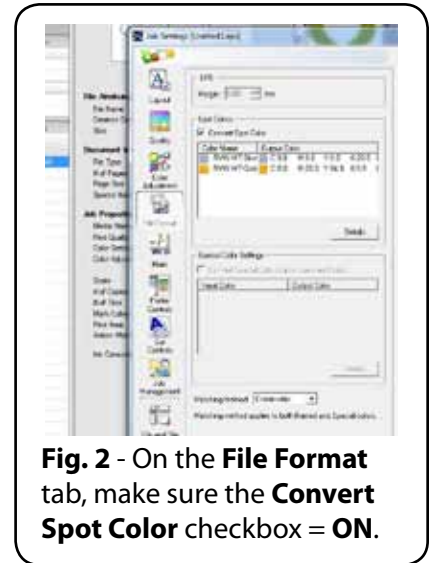

Fig. 2 - On the **File Format** tab, make sure the **Convert Spot Color** checkbox = **ON**.
3. On the **File Format** tab, confirm that the **Convert Spot Color** option is **ON** (Fig. 2).